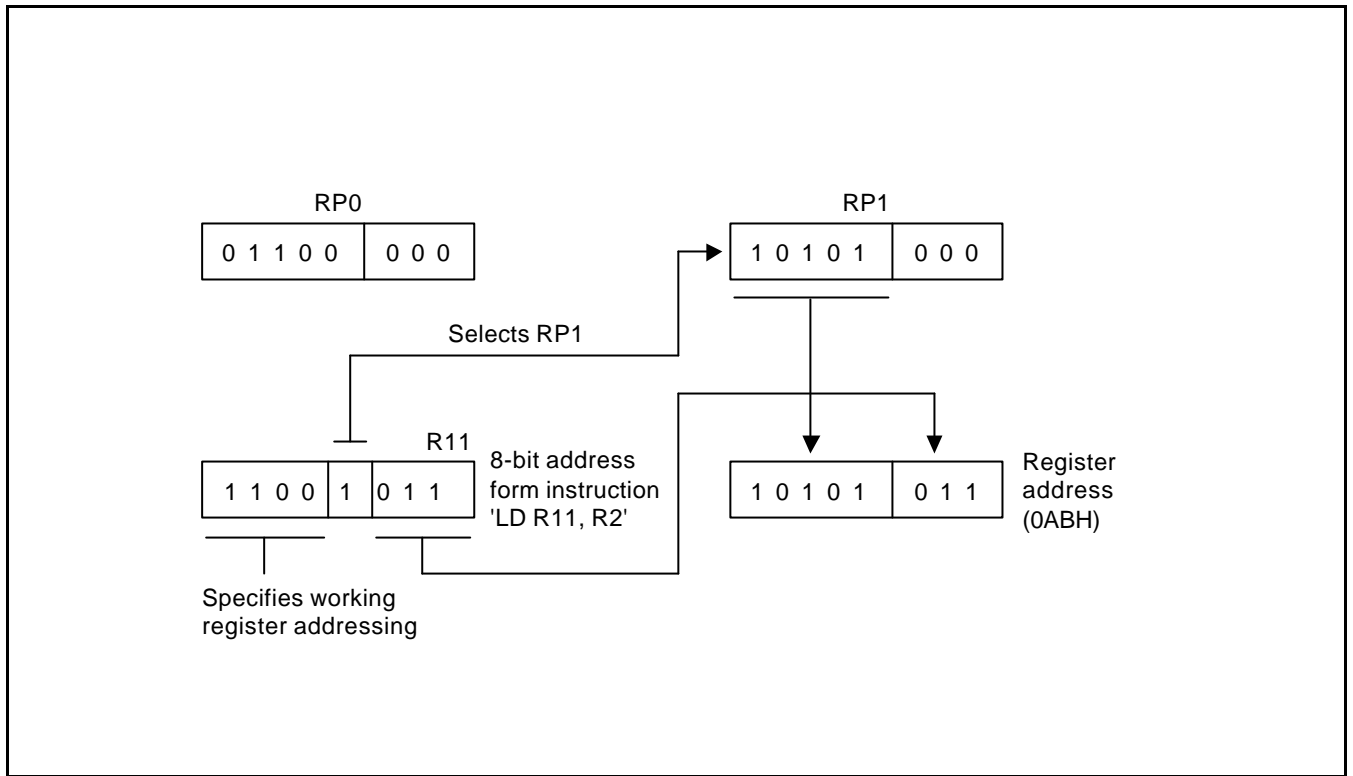

Figure 2-16. 8-Bit Working Register Addressing Example
Figure 2-16 shows an example of 8-bit working register addressing. The four high-order bits of the instruction address (1100B) specify 8-bit working register addressing. Bit 4 ("1") selects RP1 and the five high-order bits in RP1 (10101B) become the five high-order bits of the register address. The three low-order bits of the register address (011) are provided by the three low-order bits of the 8-bit instruction address. The five address bits from RP1 and the three address bits from the instruction are concatenated to form the complete register address, 0ABH (10101011B).